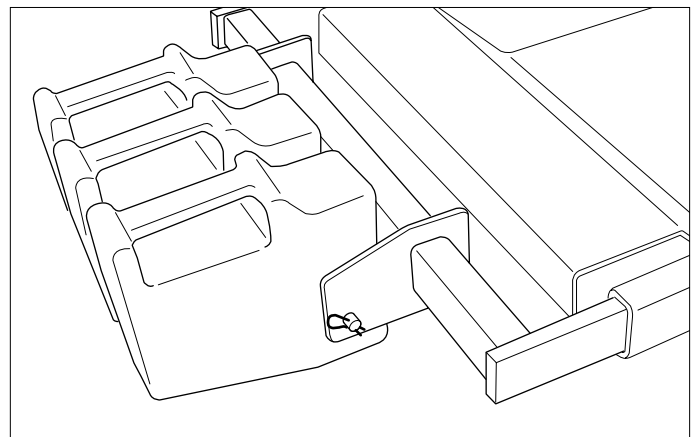

Figure 33. Weight & Retainer Rod Installation
6. Install the counter weights supplied with the grass collector on the weight mount rack (see Figure 33).
7. Install the weight retainer rod through the weight mount rack and secure with the hairpin clips (see Figure 33).